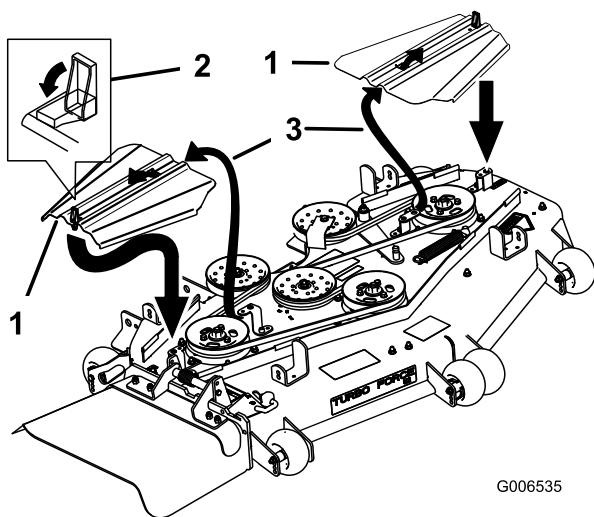

Figure 63
12. Install the belt covers by sliding the cover into the tab, install the bolts, and close the latches (Figure 63).